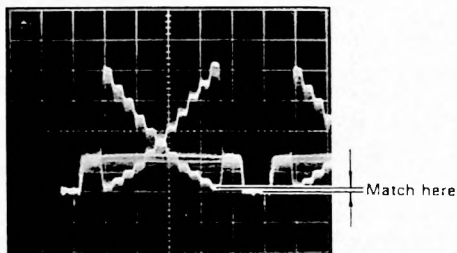

Fig. 4-4-38
- Adjust Y_L PED VR218 so that the pedestal level of Y_L signal matches that of B signal. (Fig. 4-4-38)